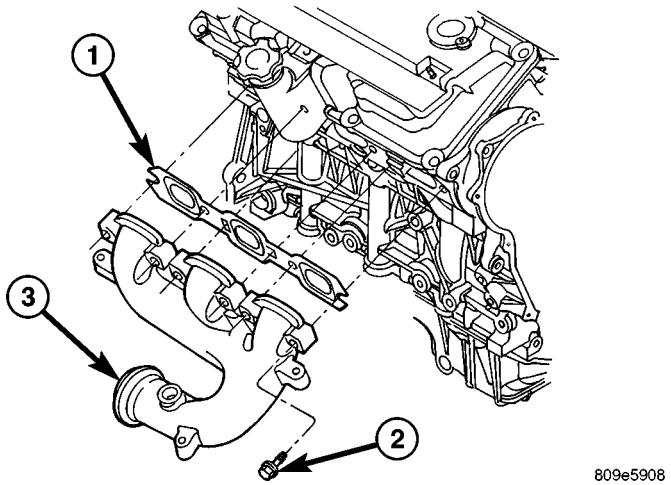

Fig. 131 EXHAUST MANIFOLD - RIGHT SIDE
- (14) Remove the exhaust manifold attaching bolts (Fig. 131).
- (15) Remove the exhaust manifold and gasket (Fig. 131).
- (1) Install exhaust manifold and gasket. Tighten bolts starting at the center working outward to 23 N·m (200 in. lbs.) (Fig. 131).